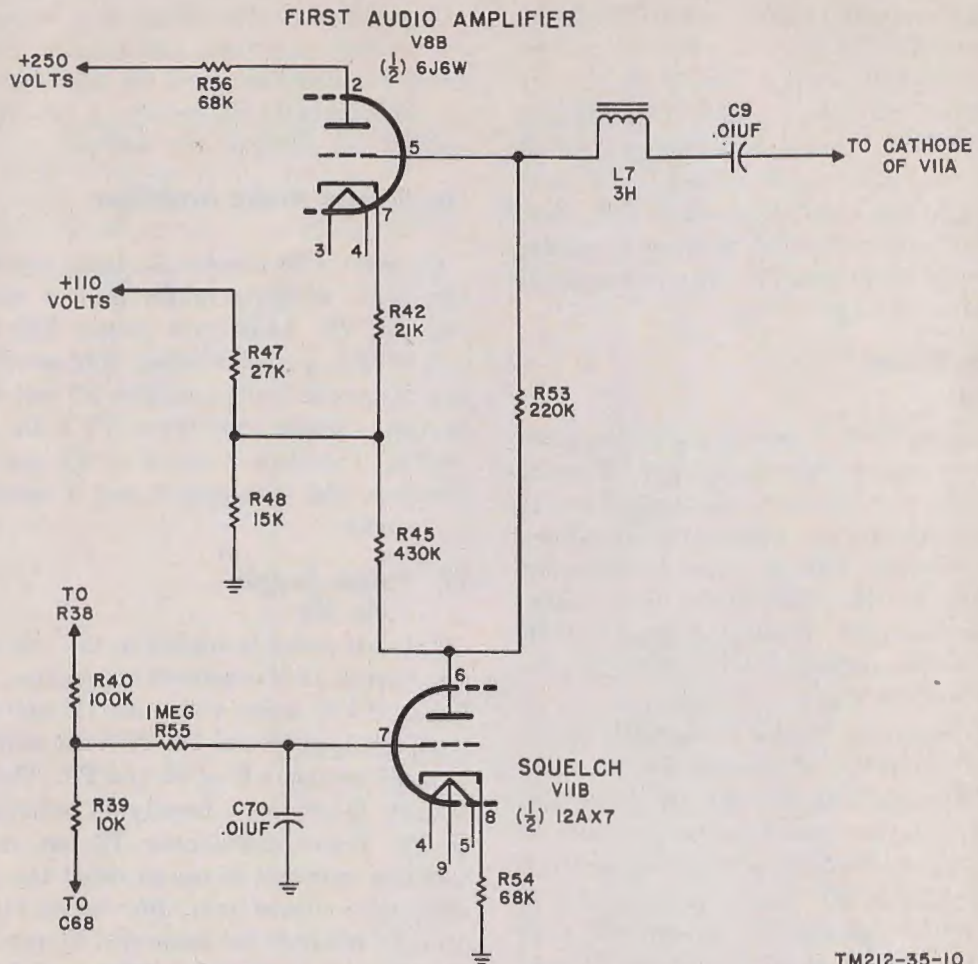

Figure 10. First audio amplifier V8B and squelch V11B.
(fig. 10)
a. Squelch tube V11B is used to silence the audio portion of the receiver when there is no RF signal being received. This prevents the appearance of annoying hiss, crackle, and noise in the telephone. First audio amplifier V8B is allowed to conduct normally when an RF signal of the proper magnitude is being received. The bias voltage for V8B is developed across cathode resistor R42 (fig. 10) and appears between grid and cathode.
b. Plate voltage for squelch tube V11B is obtained from the junction of resistors R47 and R48 and applied through R45 (fig. 10). Resistors R47 and R48 are connected across the positive 110-volt supply and ground. The grid of squelch tube V11B is connected through R55 to the junction of R39 and R40. Resistors R39 and R40 are part of the agc circuit and the potential at the junction of R39 and R40 will vary as the RF signal strength varies (par. 14).
c. When a strong RF signal is being received, the junction of R39 and R40 will be negative in relation to ground. The grid of the squelch tube which is connected to the junction of R39 and R40 will also be negative. The negative voltage is sufficient to cut off the squelch tube. When the squelch tube does not conduct, it does not affect the bias on the grid of the first audio frequency (AF) amplifier. This allows normal operation of the AF amplifier.